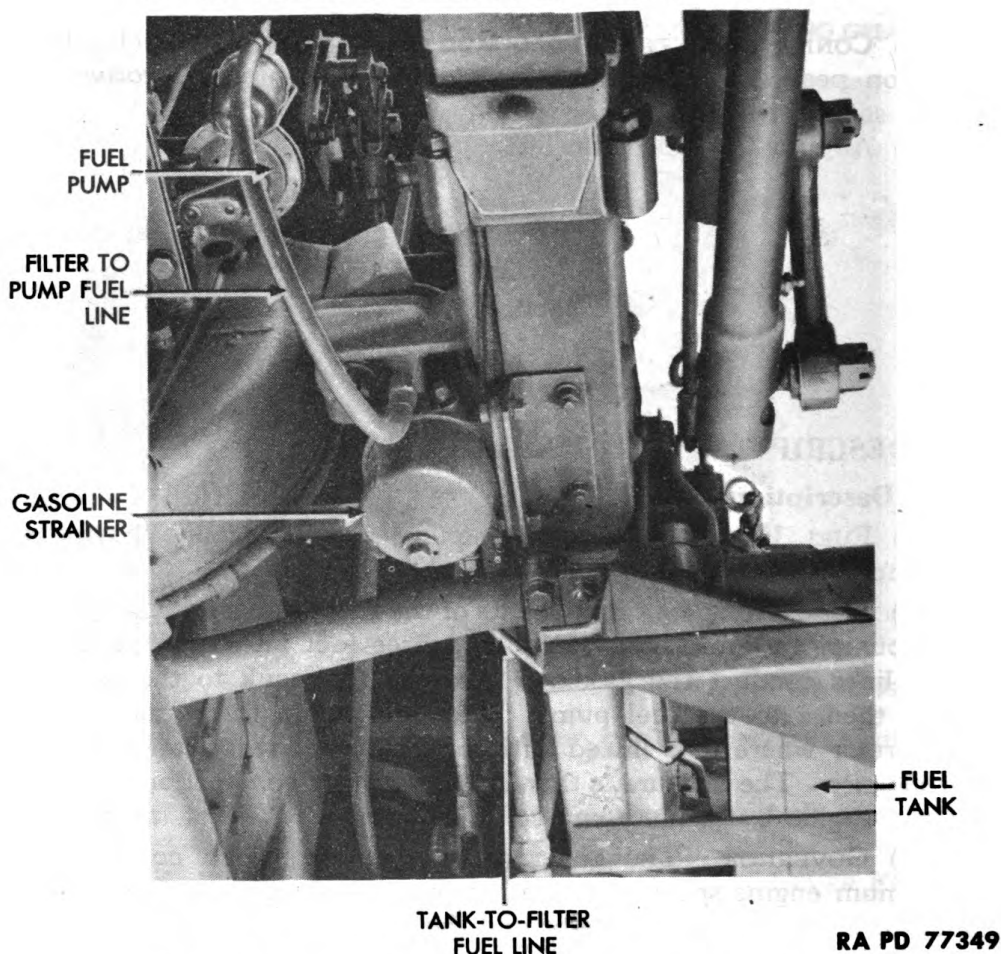

Figure 34 — Fuel System Components Installed
61. DESCRIPTION AND DATA (fig. 34).
a. Description (fig. 36). The fuel pump is mounted on the left side of the engine, approximately level with the top of the chassis frame. It is reached through the cab skirt opening (fig. 34). The
(2) **DISCONNECT FUEL LINES** (fig. 36). Screw filter to pump fuel line (fig. 34) and pump to carburetor fuel line from their respective fittings on fuel pump.
a. Description (figs. 37 and 38). The gasoline filter is mounted on the inside of chassis frame near left-hand step plate (fig. 34). It is accessible from under the truck. Gasoline flowing from the fuel tank passes through the strainer on its way to the fuel pump. Fuel flows through an inlet fitting into a metal bowl. From the bowl it is forced through a cylindrical laminated filtering element and out through an outlet fitting. It is equipped with a shut-off cock on its inlet fitting. The purpose of the gasoline filter is to remove water or impurities from the fuel.